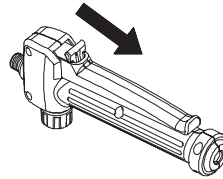

Figure 13
1. To lock-on, press the lever down and pull the lock button backwards, then release the lever. Refer to Figure 13.